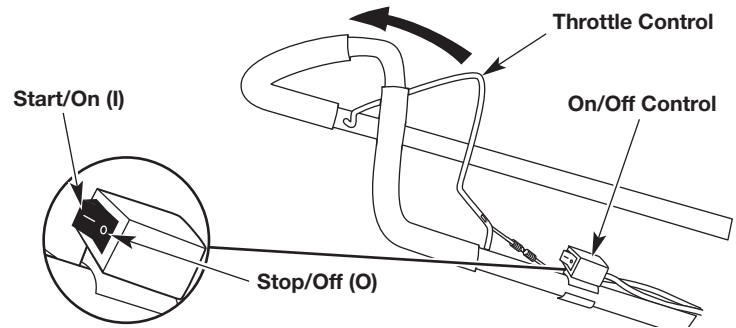

Fig. 4
NOTE: There is no need to turn the unit on. The On/Off Control is in the **ON (I)** position at all times (Fig. 4).
2. Press and hold the On/Off Control in the **OFF (O)** position until the unit comes to a complete stop (Fig. 4).